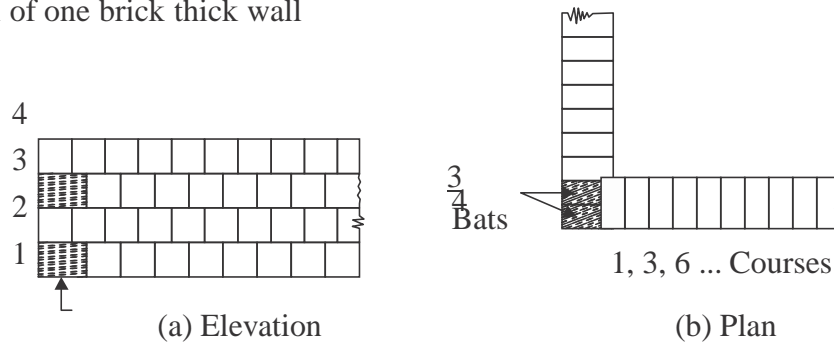

Fig. 2.6.2 Header bond
2. Header Bond: A header is the shorter face of the brick as seen in the elevation. In a standard brick it is 90 mm × 90 mm face. In header bond brick masonry all the bricks are arranged in the header courses as shown in Fig. 2.6.2. This type of bond is useful for the construction of one brick thick wall